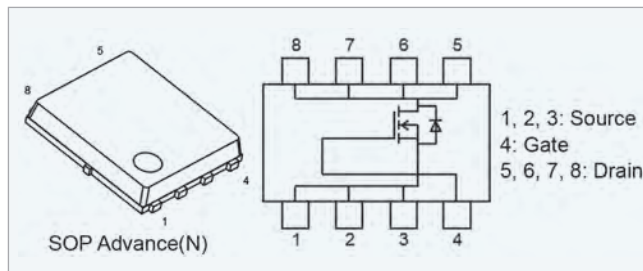

Figure 4
The TPH2R70AR5-LQ comes in a 5.15 mm × 6.1 mm × 1 mm surface-mount SOP Advance(N) package (Figure 4), providing excellent mounting compatibility with industry standards.